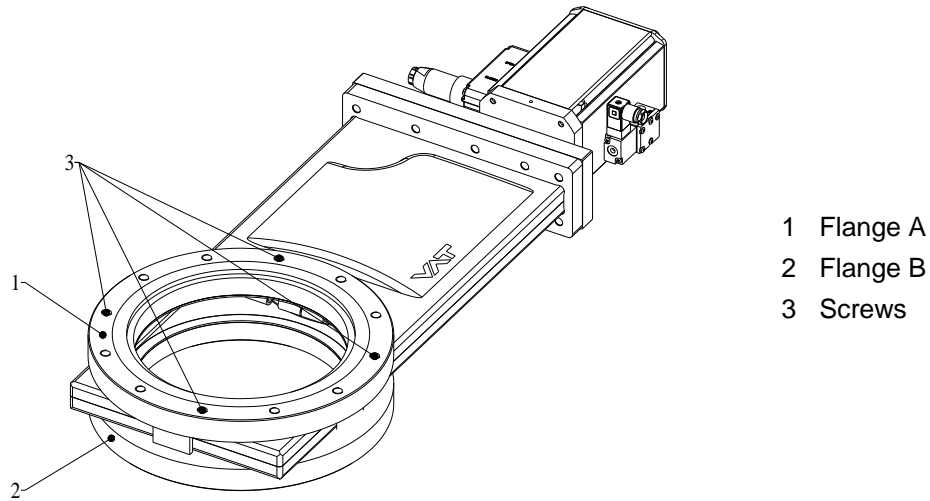

Figure 4-1
see (1) and (2) according to «Figure 4-1» on page 10.
5. Mount the four screws (3) according to «Figure 4-1» on page 10, evenly in crosswise order until the seal touches the sealing surface.